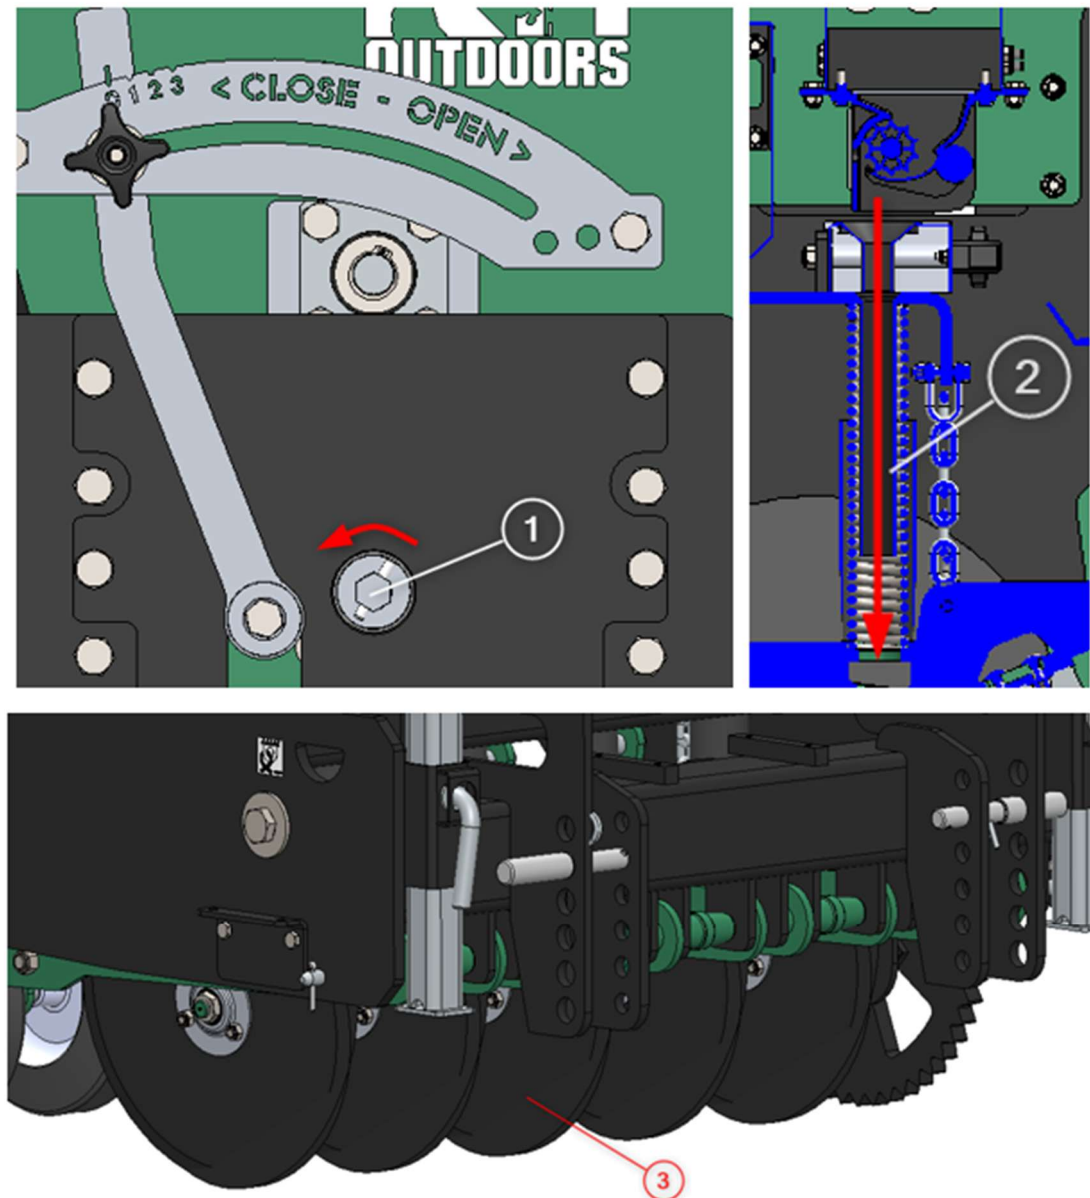

Fig. 11
When the hopper is empty, the shaft (1) must be able to rotate with a wrench without too much force. Rotate the shaft in the direction indicated by the arrow. (Fig.11)